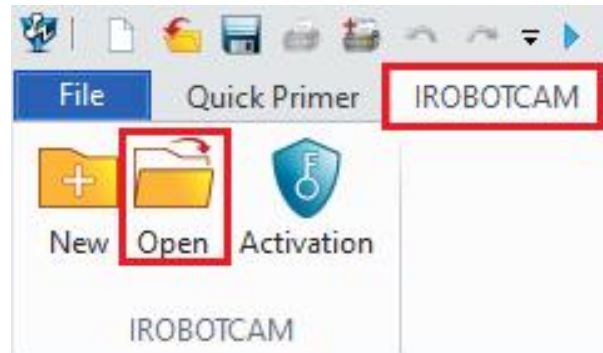

Figure 8-2: Open iRobotCAM project file
- Open iRobotCAM project file “Create Robot.Z3”. (Figure 8-2)